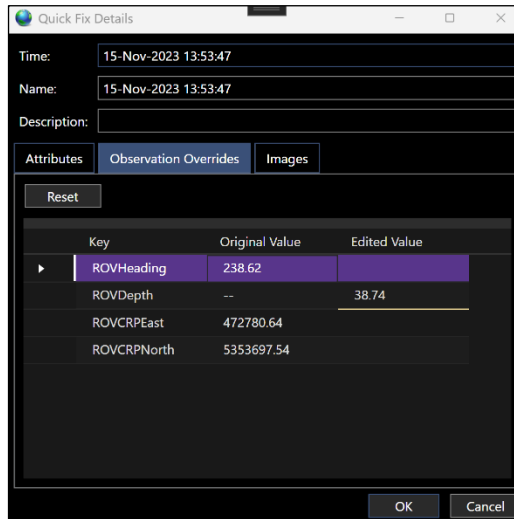

FIGURE 14-44 QUICK FIXES - QUICK FIX DETAILS – OBSERVATION OVERRIDES ENTRY EXAMPLE
- III. As each item is moved to the right panel, an Add Formatter window is opened. This is used to format the data, edit the Item Header text and add Item Tags. Item Tags are used for Report setup and to override observations when capturing a Quick Fix (see Figure 14-44)
- f. To edit a fix, select a fix of interest then right click on selected to open a pop up window and select **Edit** (see Figure 14-44).